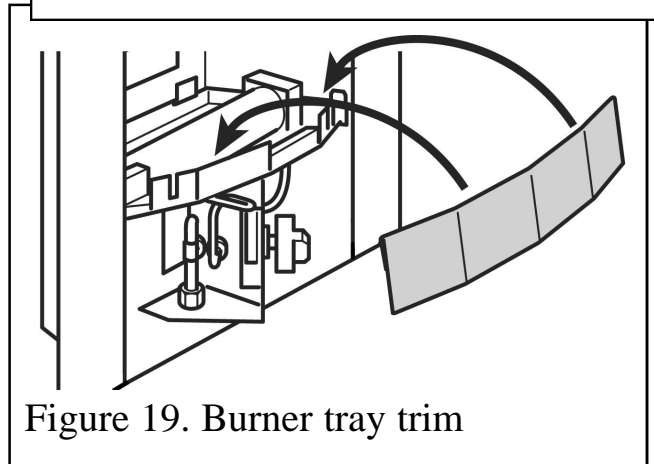

Figure 19. Burner tray trim
1. Fit the burner tray trim over the front rim of the burner tray. Push the trim fully down (See figure 19).